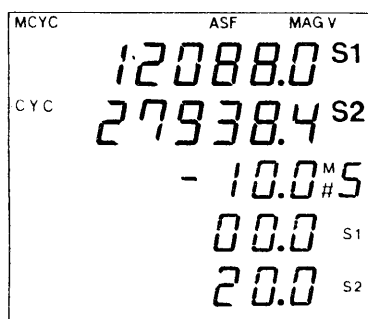

Fig.39 Function #5 Screen
1. Enter Function #5 by pressing [#] and [5]. Do not press [ENT] at this time. The display will look like Fig.39. The TD's being received are displayed in the upper two lines.